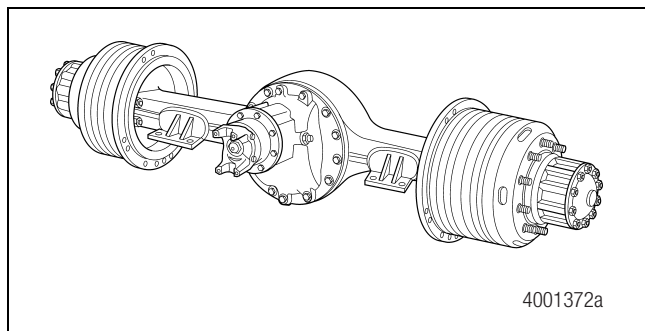

Figure 2.2
- The housing has weld-on torque rod brackets. Figure 2.2.
- The housing is designed without replaceable axle tubes at the wheel spindles. Figure 2.2.